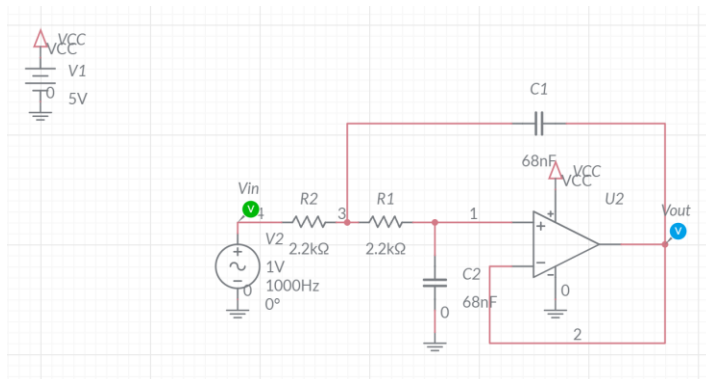

Figure 1: The low-pass filter on the Audio board built with a Sallen-Key topology.
Your audio board comes equipped with a 2nd order low-pass filter shown in Figure 1. This circuit is called a “low-pass filter” because it allows low frequency sine waves that are applied to the input (LPF\_IN in Figure 1) to pass through to the output (LPF\_OUT in Figure 1) largely unchanged, hence “low-pass”. However, when you apply a high frequency waveform to the input, it will emerge from the output with a much smaller amplitude. What constitutes “high” and “low” frequency is determined by the component values in the circuit.
To understand the behavior of our low-pass filter, let's construct the circuit in Figure 1 using MultiSim Live. Use the components and values given in the figure. In case you need it, here is the parts list from Multisim Live.
The op amp in Figure 1 (and on your audio board) is powered from a single rail, meaning 5V and 0V. This can cause problems for signals that have no DC bias. "No DC bias" means that the AC waveform is centered at 0V. As a reminder the audio input to your Audio board has no DC bias – it is about 1.0V peak-to-peak and centered at 0V.
be down by -6dB. Numerically, this frequency is given by the following equation. Note the component references are to Figure 1.
- 4) Given the component values in Figure 1, what is corner frequency of the low-pass filter on the audio board?